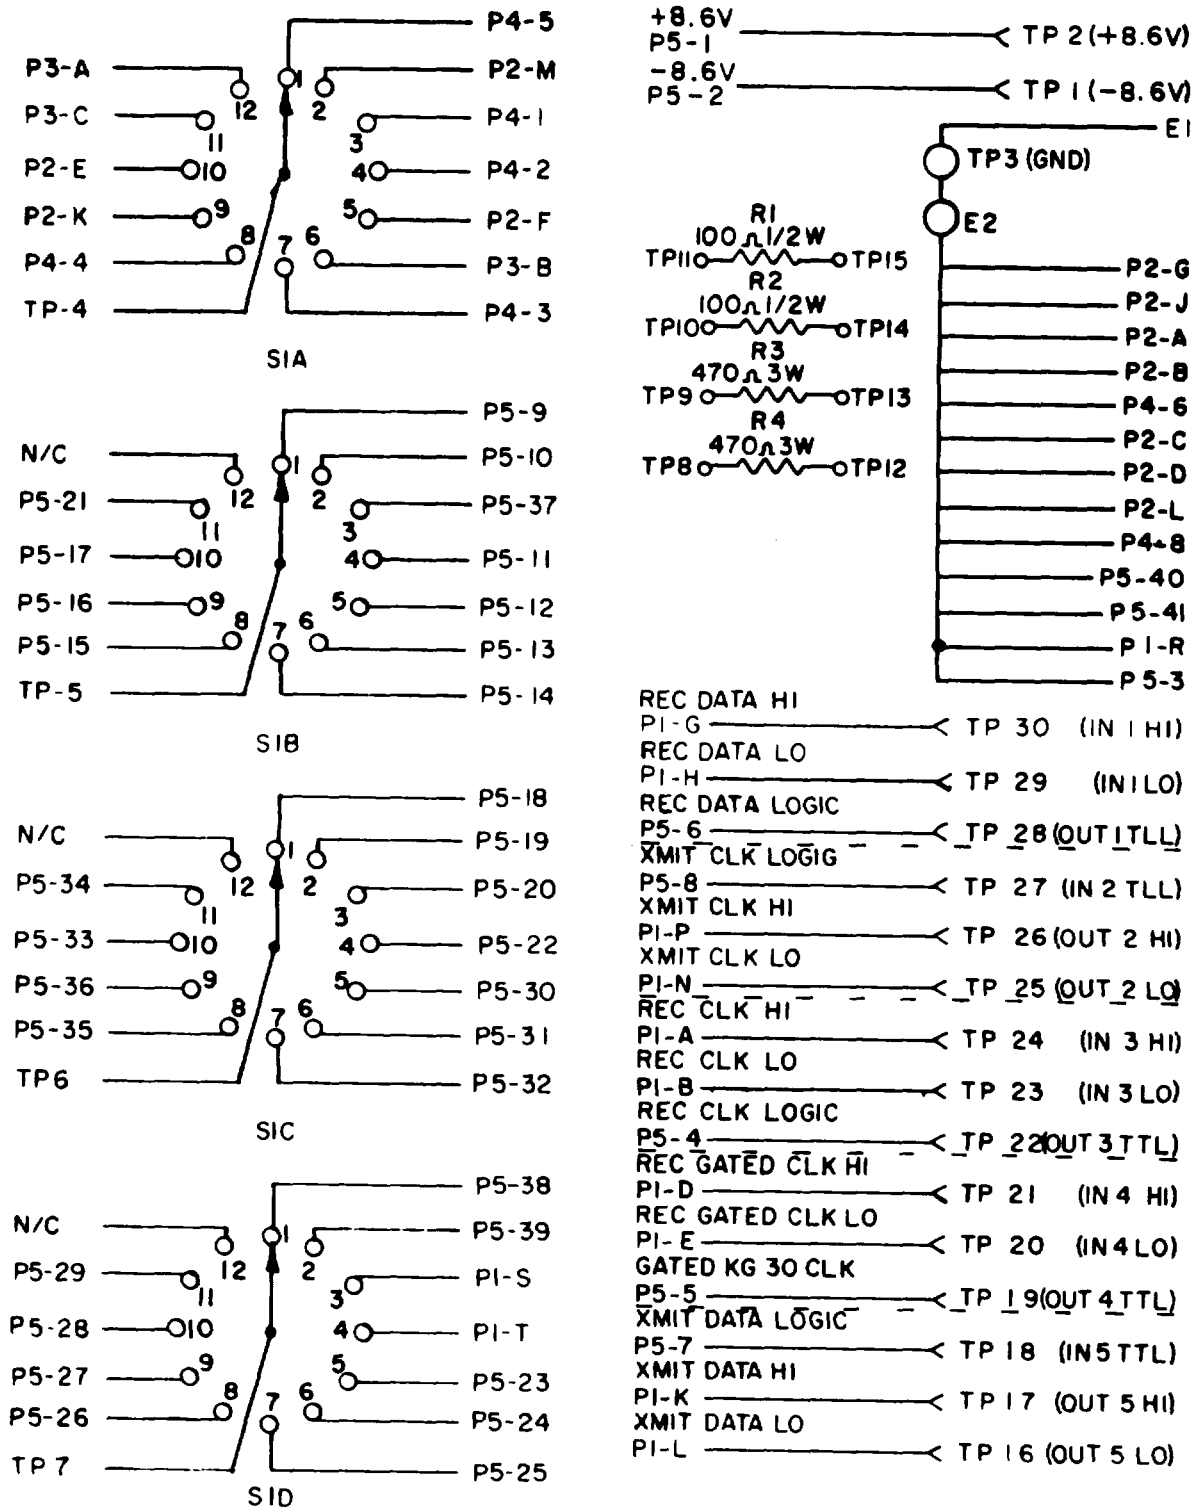

Figure 6-35. INTERFACE ASSEMBLY TEST FIXTURE SCHEMATIC
B. INTERFACE ASSEMBLY TEST FIXTURE TEST PROCEDURES. (See figure 6-35. )